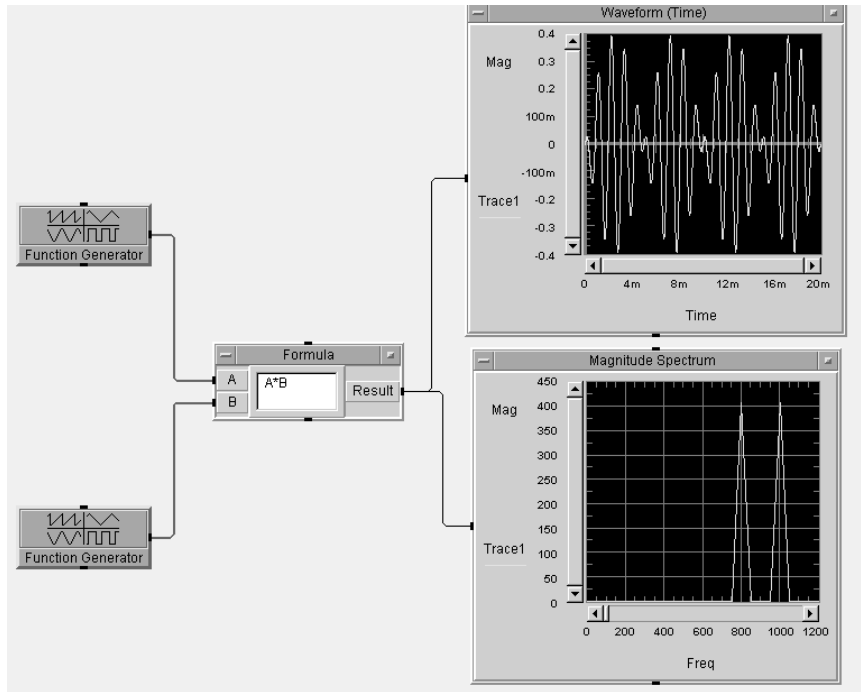

Figure 13.1. A frequency modulation wave display
8. Run this program; move the horizontal axis on both displays to the right so you can more accurately determine the period of the time-domain waveform and the frequency of the frequency-domain waveform; turn the frequency-domain horizontal-axis Automatic Scaling Off; change its Maximum scale setting to 1200. Record the results and remarks in the table on page 13-6 for these *and the waveforms below*. See Figure 13.1.